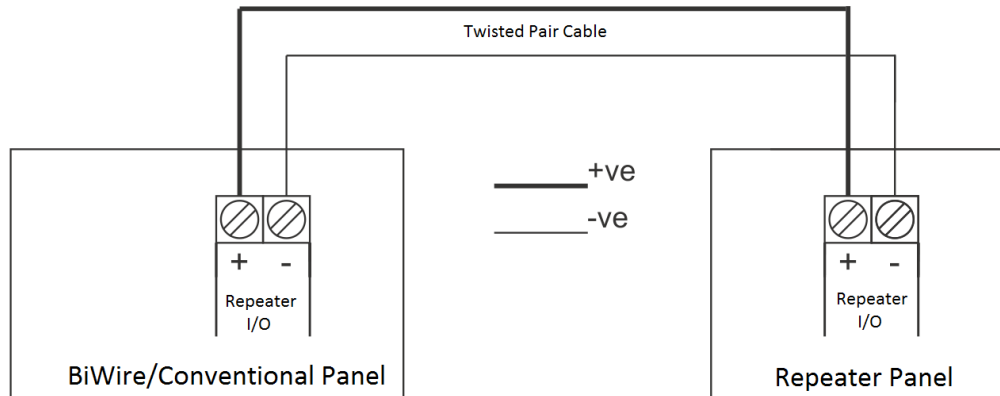

Figure 15. Repeater Panel Wiring Diagram
- To remove the front cover of the panel, unscrew the two retaining screws located at the top corners of the panel, see Figure 15.
- Fit the door back onto the back box by following the reverse instructions in Figure 15.
If a single Repeater panel is being connected to the Fire Panel then simply connect one end of the twisted pair cable to the Repeater I/O terminals on the Fire Panel and the other end of the cable to the Repeater I/O terminals on the Repeater Panel (see Figure 15), observing correct polarity (+ to +., - to -).